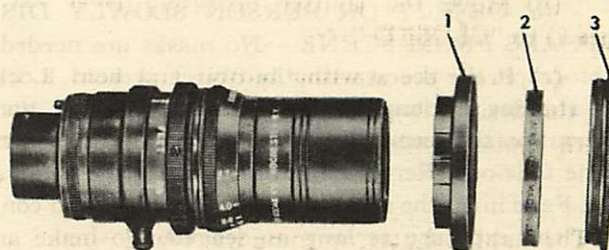

Figure 13—Attaching Filters to Lens
(6) TO SHARPEN IMAGES OF MOVING OBJECTS.—Sharper individual-frame images of rapidly moving objects (cars, planes, etc.) can be obtained under good light and with a fast lens by setting the shutter operating lever at "1/2-OPEN."
(7) FOR OUT-OF-FOCUS BACKGROUNDS.—When it is desirable to emphasize an object in the foreground of a scene by throwing the background out of focus, use a large lens opening to decrease the depth-of-field and set the shutter operating lever at "1/4-OPEN" to avoid overexposure.
q. ATTACHING FILTERS TO LENSES. (See figure 13.)
(1) Unscrew the insert (3) from the adapter ring (1), place the filter (2) in the recess of the insert, and screw the insert back into the adapter ring. Press (do not twist) the adapter ring over the lens hood so that the spring fingers will grip the lens hood firmly.
(2) The filter for the 25-mm $f/1.9$ lens is mounted in a W mount which, for use on the lens, replaces the lens hood of the 25-mm lens.